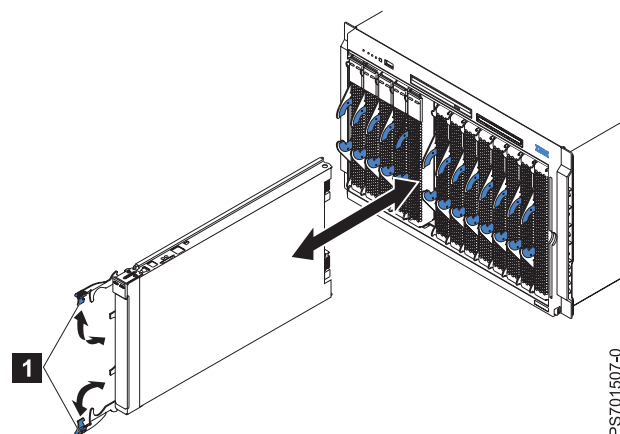

Figure 16. Removing the blade server from the BladeCenter unit
5. Open the two release handles, as shown by **1** in Figure 16. The blade server moves out of the bay approximately 0.6 cm (0.25 inch).